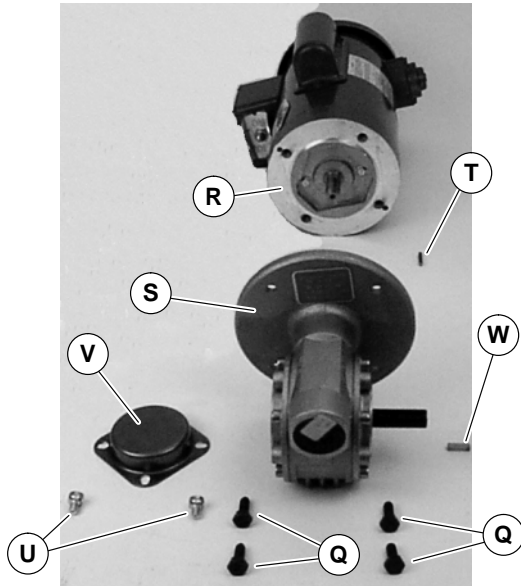

Figure 14
6. Remove four screws (Q of Figure 14). Detach motor (R) from gear reducer (S). Retain shaft key (T).
12. With key (T of Figure 14) in keyway, slide motor (R) and gear reducer (S) together. Install screws (Q) and tighten.